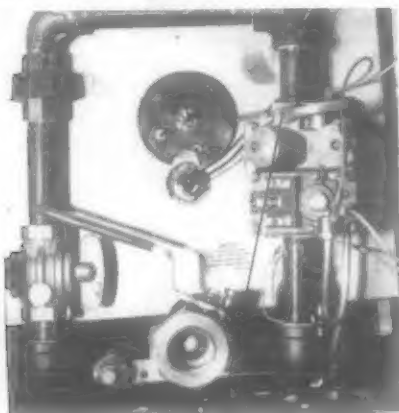

Fig. 8
- 3) Remove the pilot gas line and fitting from the valve. See Figure 8.